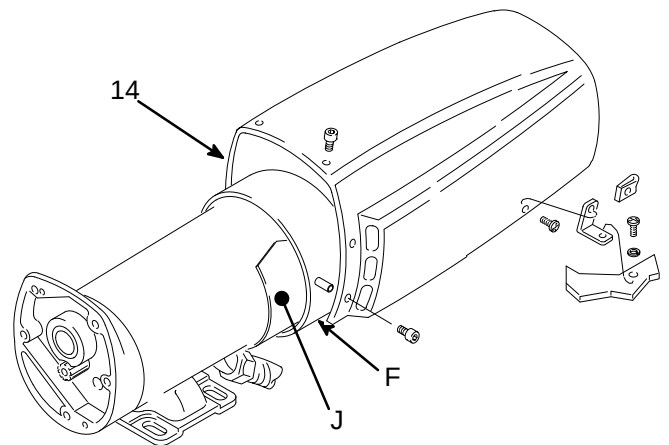

Fig 10
Remove the pressure control cover, the motor shield (14), the fan cover (F) and the inspection covers (J). See Fig 10.